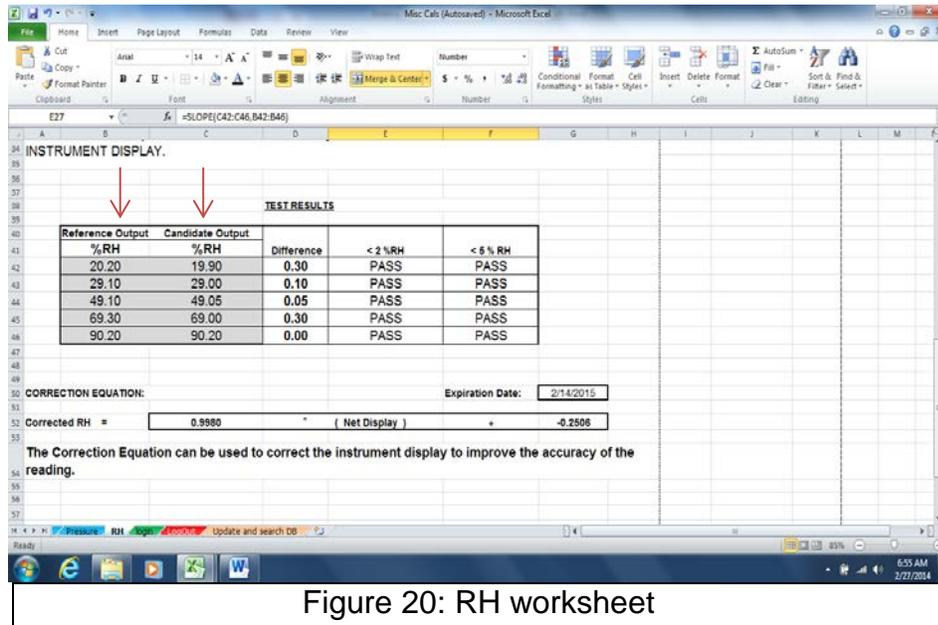

Figure 20: RH worksheet
12.13 Copy and paste the RH readings in the "LABORATORY STANDARD" column (Figure 10) to the "Reference Output" column (Figure 20). Copy
and paste the RH readings in the “CANDIDATE” column (Figure 10) to the “Candidate Output” column (Figure 20).